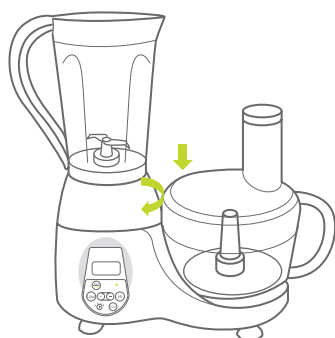

Fig. 33
2. Mount the blender jar onto the attaching hole and turn it clockwise until it is firmly fixed. (Fig. 33)